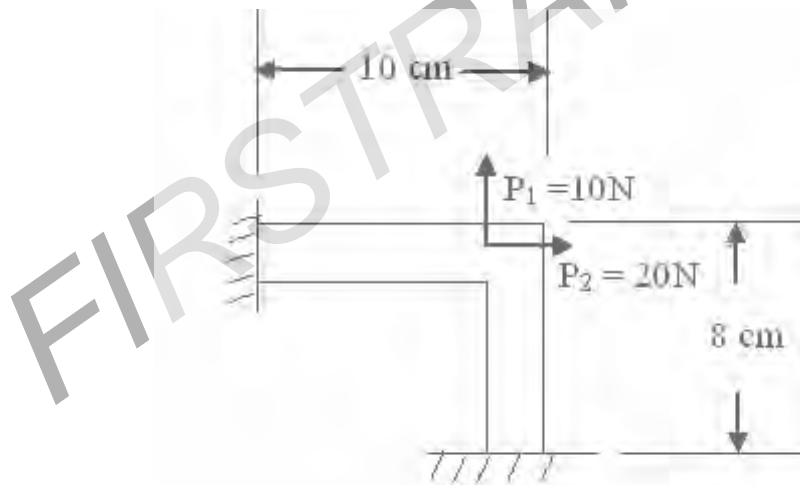

Figure 7
7. Give a detailed method of finding the stresses in the frame shown in the figure 7